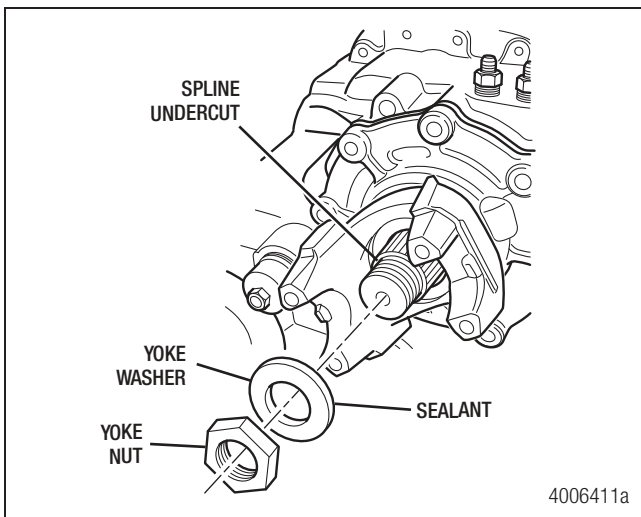

Figure 7.38
10. Apply a 1/8" (3.175 mm) bead of Silastic RTV 732 sealant 360° around the underside of the washer. Figure 7.38.